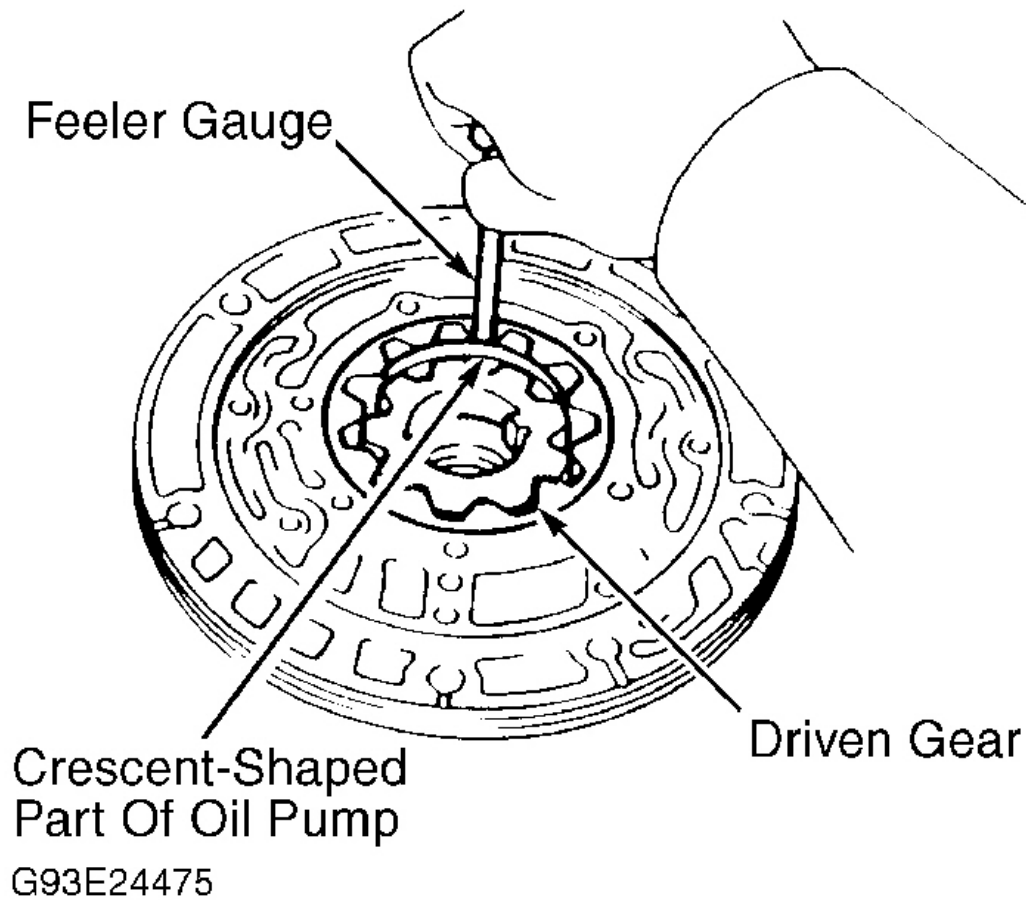

Fig. 19: Checking Oil Pump Gear Tip Clearance
2. Using a feeler gauge, measure tip clearance between both gears and the crescent-shaped part of the pump body. See **Fig. 19** . Replace the pump body if clearance is not within specification. Refer to **OIL PUMP CLEARANCE SPECIFICATIONS** table.